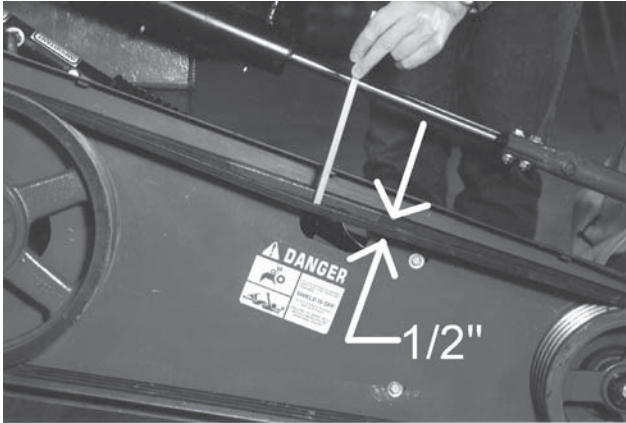
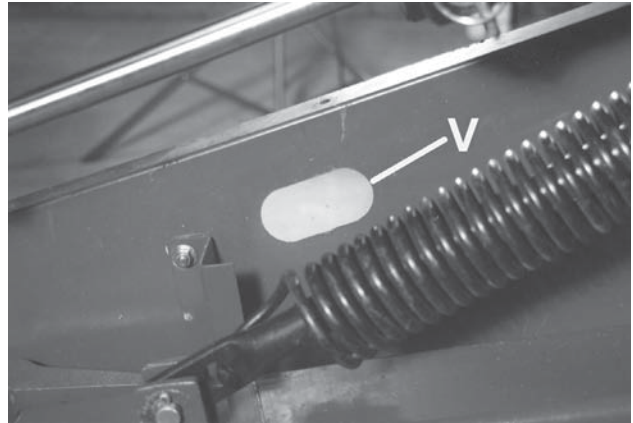

Figure 14
Figure 15
The belt tension must be adjusted properly to prevent the belt from slipping. To adjust the belt tension, loosen the jam nut and tighten the nuts on the Tensioning Rod until each belt can be depressed 1/2" when a force of 11 pounds is applied to the belt at a point midway between the pulleys (See **Figure 14**). An Access Hole (V) is provided in the belt shield to check belt tension (See **Figure 15**).